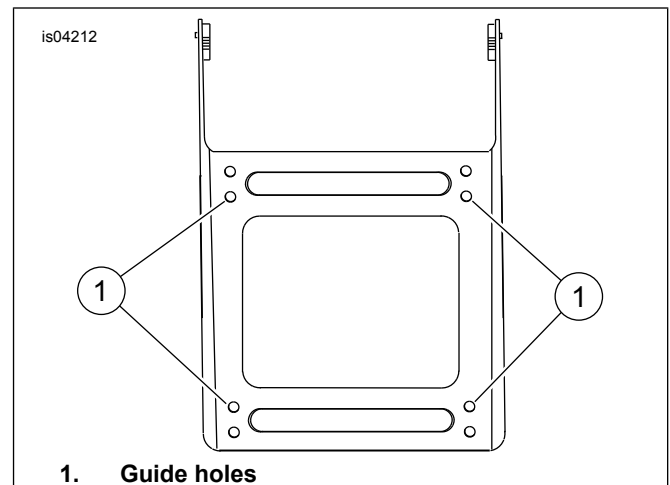

Figure 2. Top View of Detachable Rack
2. See Figure 2. Place blocks of wood underneath the Tour-Pak where the holes are drilled to prevent damage to the leather while drilling. Use the pre-drilled holes (1) in the metal base as a guide. Carefully drill the holes through the Tour-Pak in the proper location using a 11/32 in drill bit.